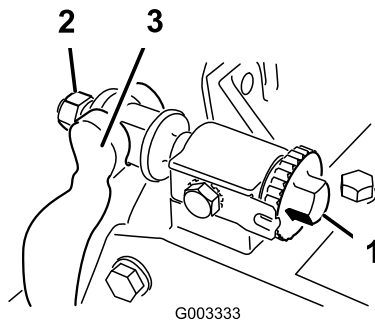

Figure 57
1. Turn the bedbar adjuster screw, counterclockwise, to back the bedknife away from reel (Figure 57).